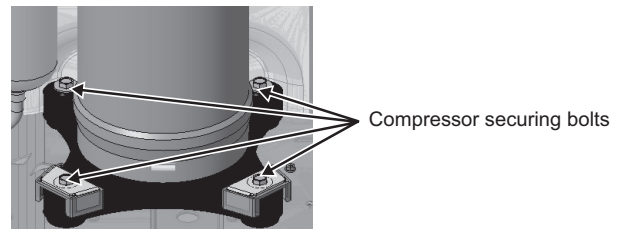

Fig. 5
- (4) Remove the compressor securing bolts. (Four bolts: Fig. 5)
- (5) Seal the pipes to prevent oil from leaking when the compressor is tilted.
- (6) After replacing the compressor, protect the sealing material on the suction pipe of the compressor and the heat exchanger by using a wet felt cloth in the same manner as removal of the brazing, and then braze the pipes.